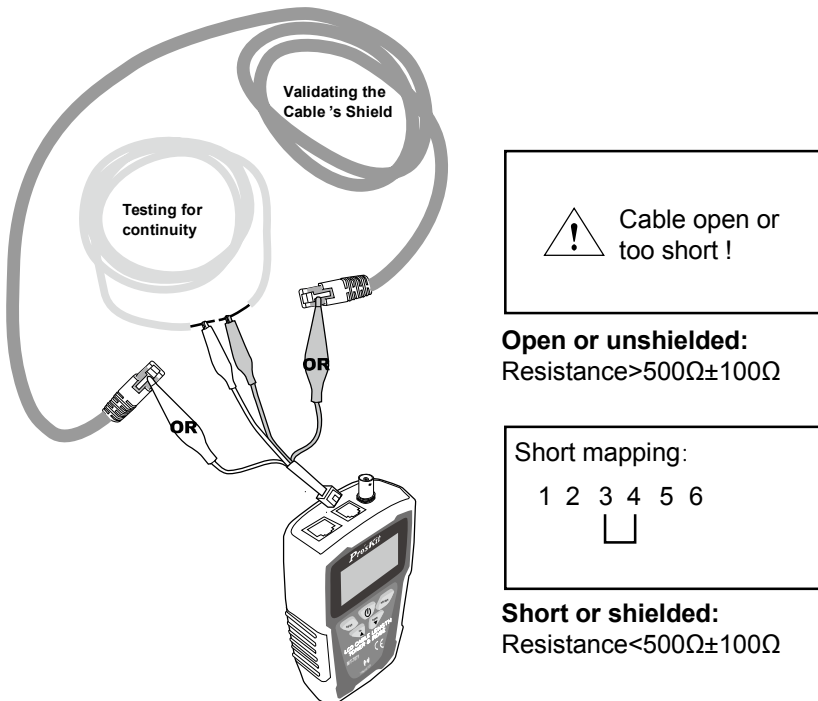

Figure 11 Shielded LAN Cable & Continuity Test
- If user could not distinguish the signal strength at each part, perhaps the cable status is short or open, perform Continuity Test (refer to figure 11) to check the cable status.
1. Refer to figure 11, plug alligator clip patch cord into RJ11 jack, and another terminal connect with tested cable.
4. The test result is as figure 11.